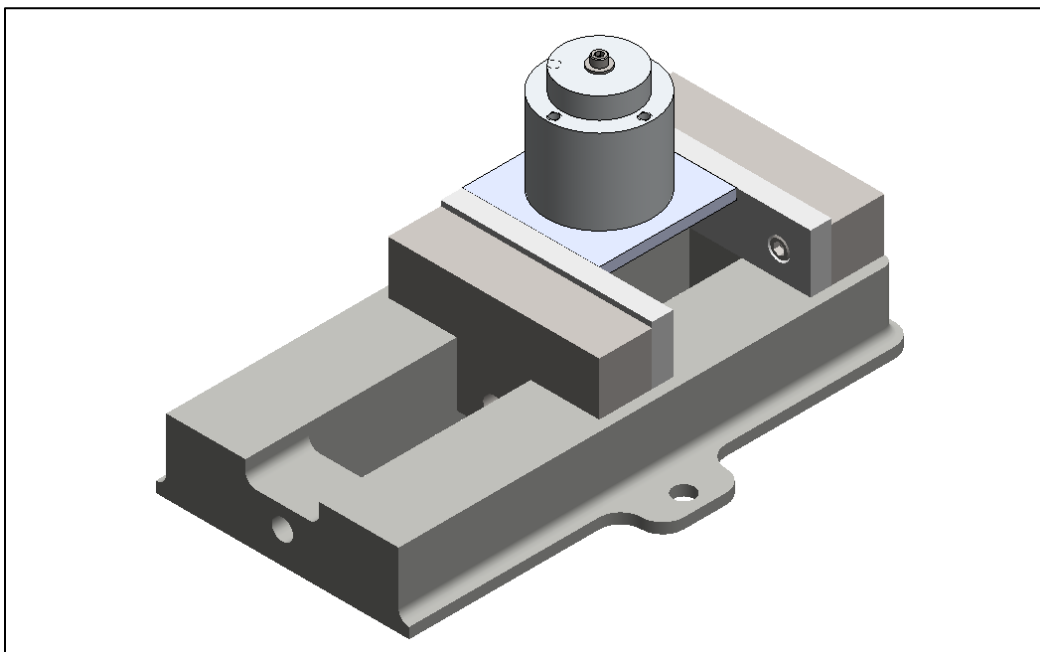

Figure 2.3 – Circular Part bolted down through center.
- When the milling forces will be in the Z-axis only (eg. Drilling) a circular part can be bolted down to a plate (Shown in Figure 2.3).